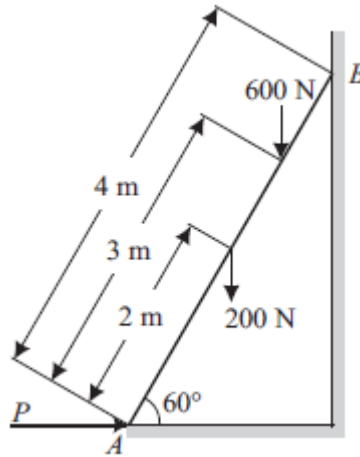

Fig.11
9. A ladder of length 4 m, weighing 200 N is placed against a vertical wall as shown in Fig.11. The coefficient of friction between the wall and the ladder is 0.2 and that between floor and the ladder is 0.3. The ladder, in addition to its own weight, has to support a man weighing 600 N at a distance of 3 m from A. Calculate the minimum horizontal force to be applied at A to prevent slipping. [L4][12 M]